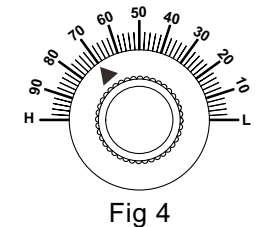

Fig 4
4. Based on the previous experience, 70% (Figure 4) adjustment position can be used to most of mediums (Need to do INITIAL CALIBRATION first).